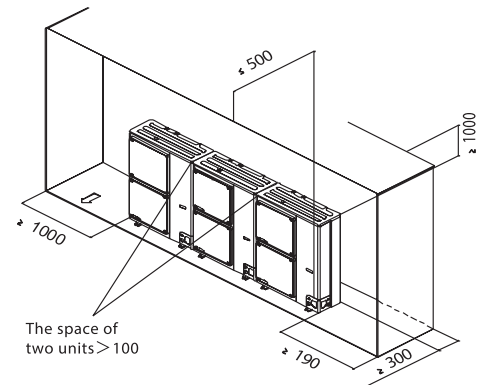

Figure 6
- Obstacles exist at the air intake ,left and right side (see Figure 6)